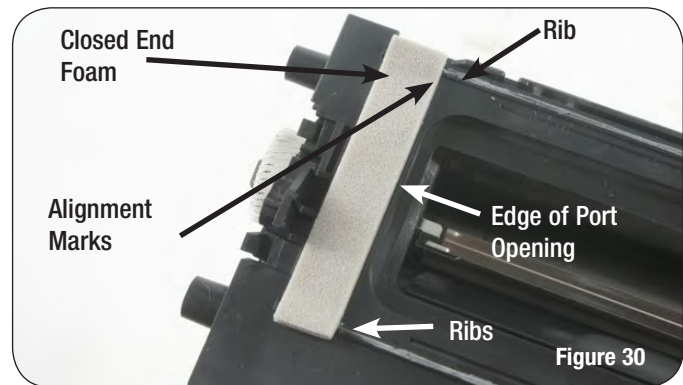

Figure 30
5. Remove the release liner and install the closed end foam onto the back of the mag section. Center the foam over ribs and against alignment marks as shown in Figure 30. Press to activate adhesive.